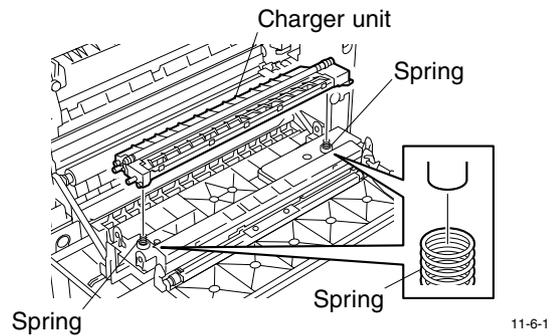

Fig. 11-6-1
3. Detach the charger unit. (Fig. 11-6-1)